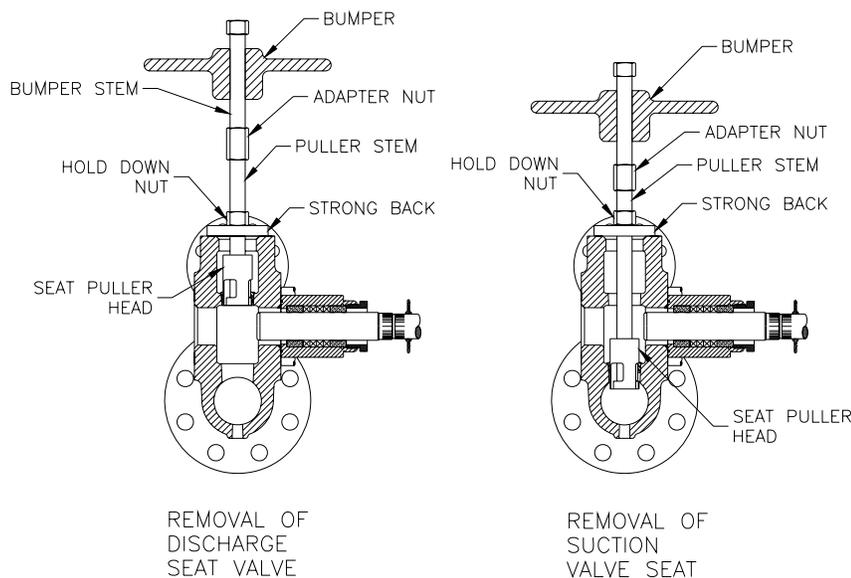

Figure 9
- g. Use the special valve puller and remove the seat. See Figure 9.